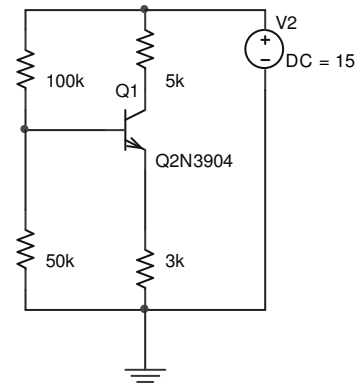

Fig 4.
2. (10 pts) Analyze the circuit shown in **Fig 4**. Determine voltages at each node and the currents through all branches. Assume $\beta=400$. (See Example 5.10, pg. 430)